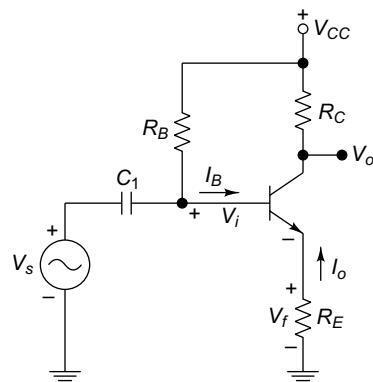
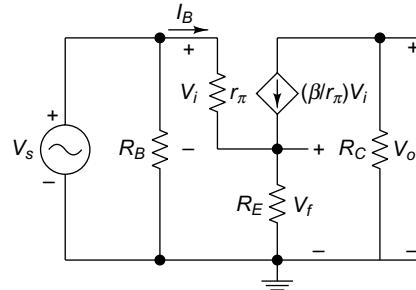
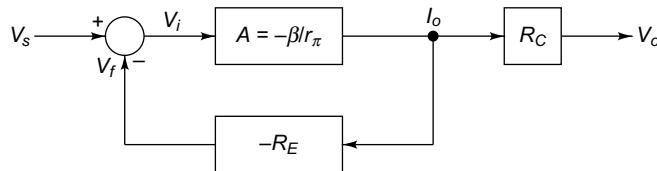

Fig. 2.33 BJT amplifier with current-series feedback
Fig. 2.34 Equivalent circuit of BJT amplifier
Fig. 2.35 Block-diagram representation of BJT amplifier with current-series feedback
The emitter current feedback amplifier is shown in Fig. 2.33 and its small-signal model is depicted in Fig. 2.34. It is clear from Fig. 2.33 that the feedback voltage is proportional to the emitter current which is being fed negatively. The R_B resistance across base and V_{CC} does not affect voltage gain of the amplifier. The block-diagram representation of BJT amplifier with current series feedback is illustrated in Fig. 2.35.
2.16 Determine the voltage gain of BJT amplifier with current-series feedback as depicted in Fig. 2.33 with the following parameters $\beta = 100$, $r_\pi = 800 \Omega$, $R_C = 2.47 \text{ k}\Omega$, $R_E = 470 \Omega$, and $R_B = 470 \Omega$.